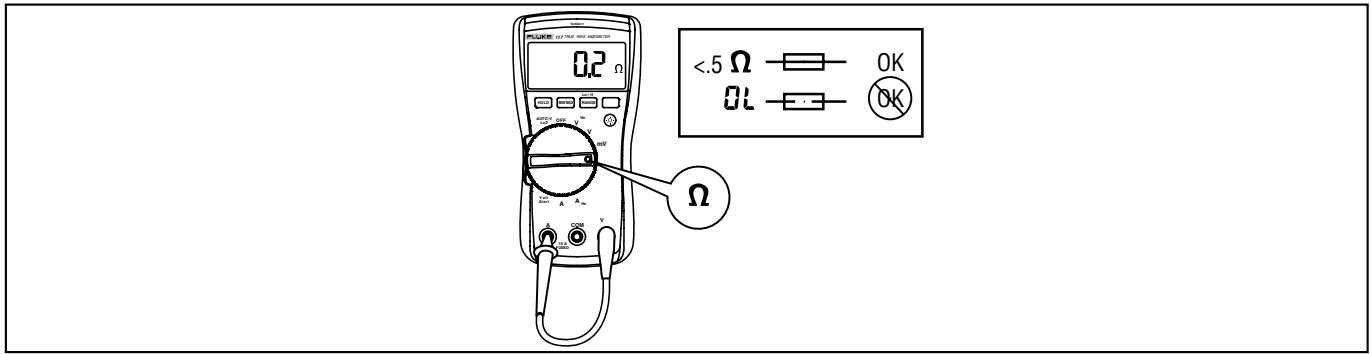

Figure 1. Fuse Testing
2. Plug a test lead into the **V Ω mA** jack and touch the probe to the 10A jack, as shown in Figure 1.
If the display shows a resistance value in the range of that shown in Figure 1, the fuse is good.